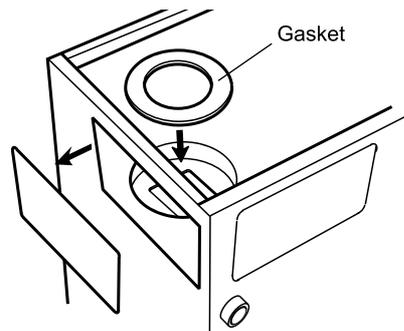

Fig. 2
8. **All models except Vortex** –Place the circular white fibre gasket into the boiler flue spigot (Fig. 2).